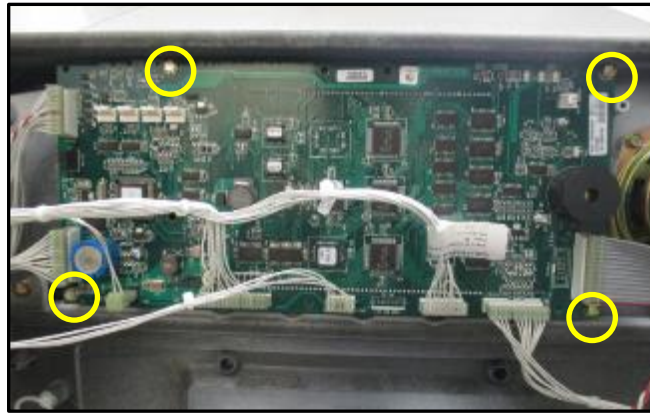

Fig 1.14 – Location of Door Node screws
**Retrofit G6-300 + InvencoLink GVR Encore 500S 700S (US) Installation Guide**
- 16.** Remove the four #6-3/8" sheet-metal screws fastening the Door Node to the back side of the Dispenser Door. Save these screws for later re-use during installation. Carefully set the Door Node inside the electronics cavity out of the way. Use a soft anti-static cloth to protect the electronics and displays from damage. Undo any necessary cable restraints that may be present. (Fig 1.14)